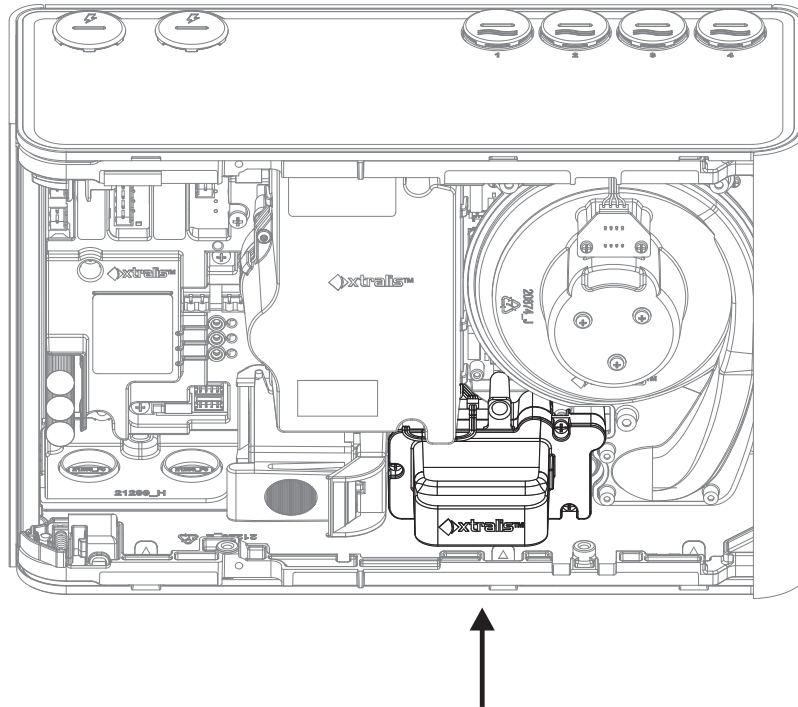

Figure 7-20: Reinstall Sampling Module
1. Firmly press the Sampling Module into the detector in the direction of the arrow shown so that the rubber seal on the Sampling Module is seated on the pipes in the detector (Figure 7-20). You will feel the module slide onto the pipes.